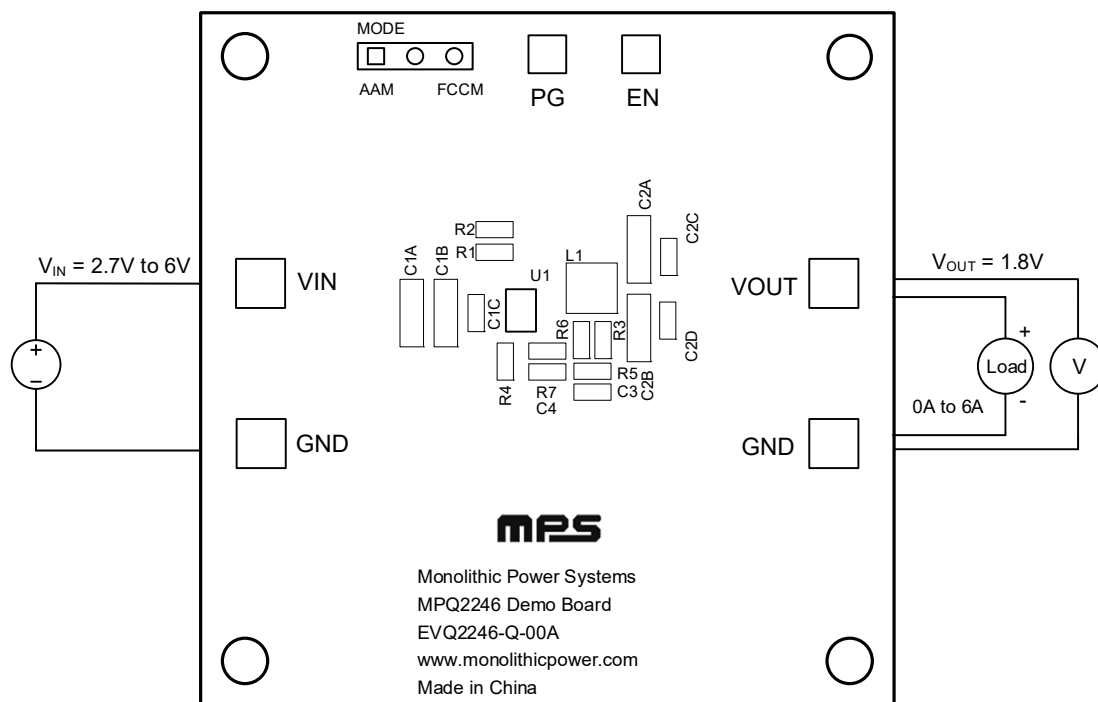

**Figure 1: Feedback Divider Network with Adjustable Output**
8. The external resistor divider sets the output voltage ( $V_{OUT}$ ) (see Figure 1).